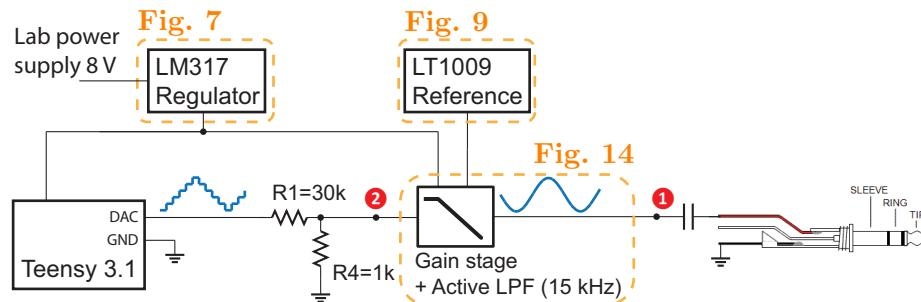

Figure 16: Acquiring signal through Analog Discovery.
1. Set up the system according to Fig. 16.
7. Now use the audio cable to acquire the signal after the gain stage (position 2 in Fig. 16). Record the data and compare it with that from the last step. Explain the difference, if there is any.